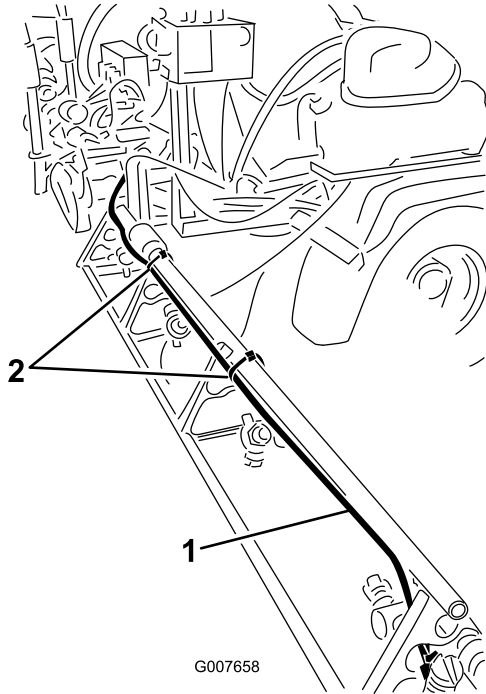

Figure 9
- A. On the right boom, install the foam hose along the rear side of the upper support pole (Figure 9).